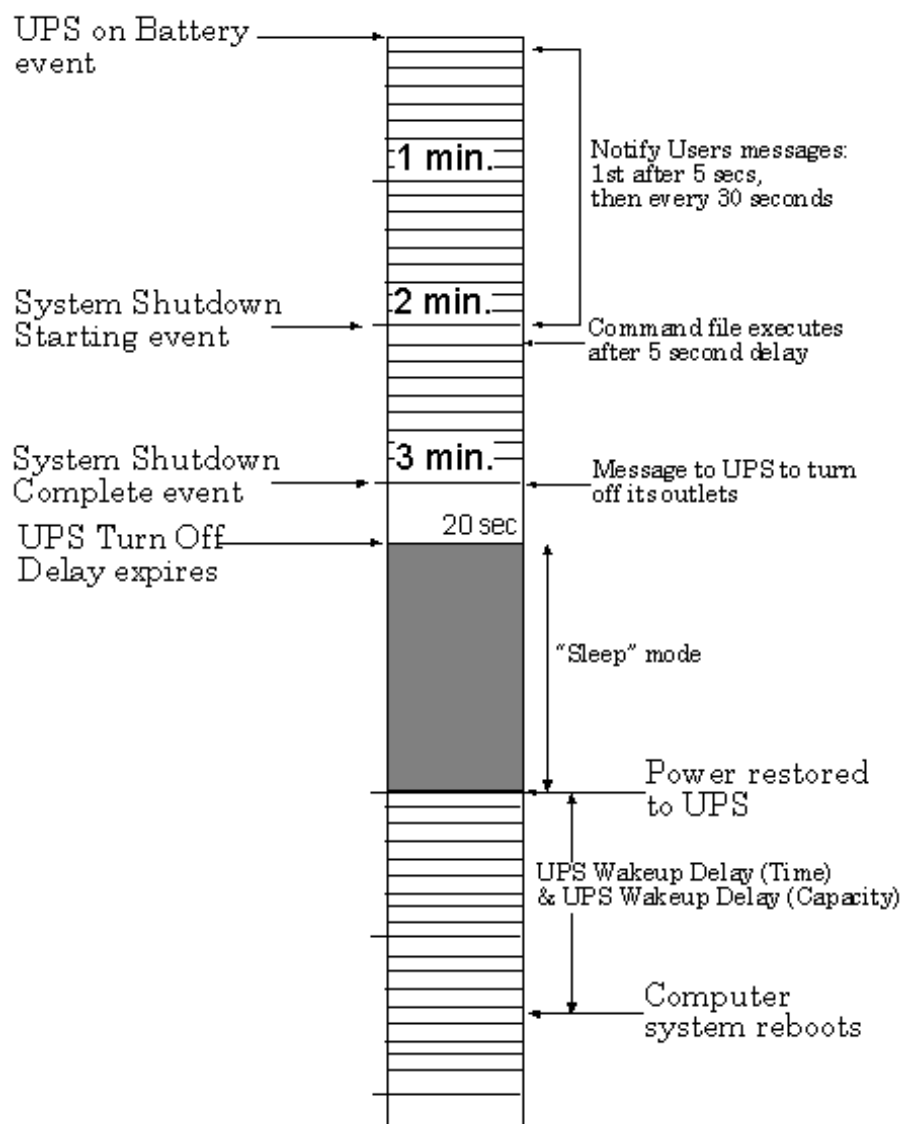

Figure 1: Timeline of Shutdown steps
**Figure 1, Timeline of Shutdown steps** on the next page shows a typical shutdown and restart due to utility power failure. Following is an analysis of the timeline of events.